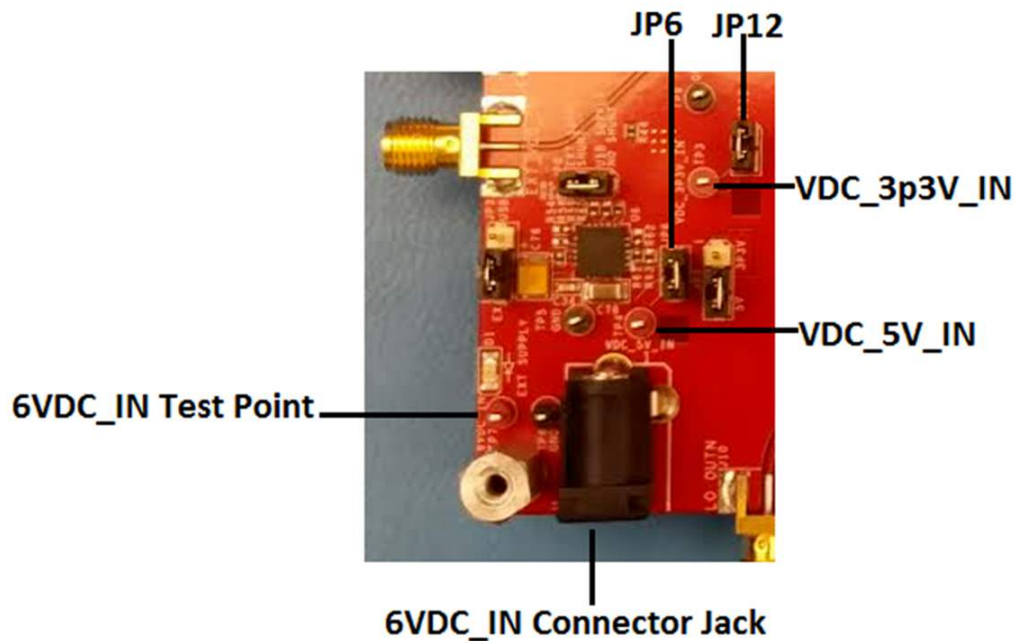

Figure 5. Voltage Supply Inputs
The default EVM jumper installation is listed in Figure 5.
3. Power up the board using a single 6-V DC supply by connecting a 6-V DC supply either at the *J1* power connector jack or at the test point (TP7) as shown in Figure 5.
7. At initial power up (before the device is programmed), typical consumption from a 3.3-V DC supply is around 55 mA (± 15 mA) and typical consumption from a 5-V DC supply is around 20 mA (± 7 mA). Figure 5 shows the voltage supply inputs.